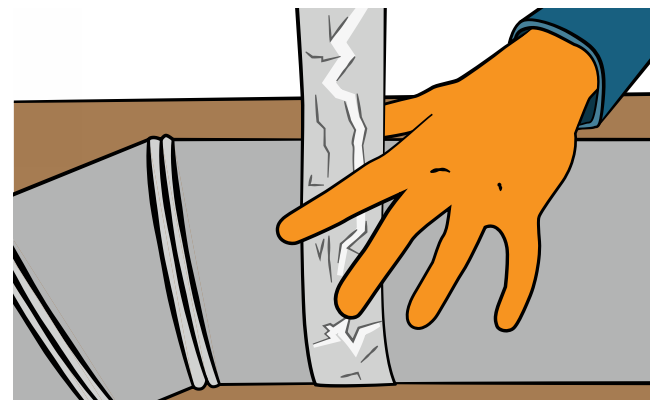

FIG. 17a
- Seal with adhesive-backed aluminum tape, cutting strips long enough to circle the joint at least twice [FIG. 17a].